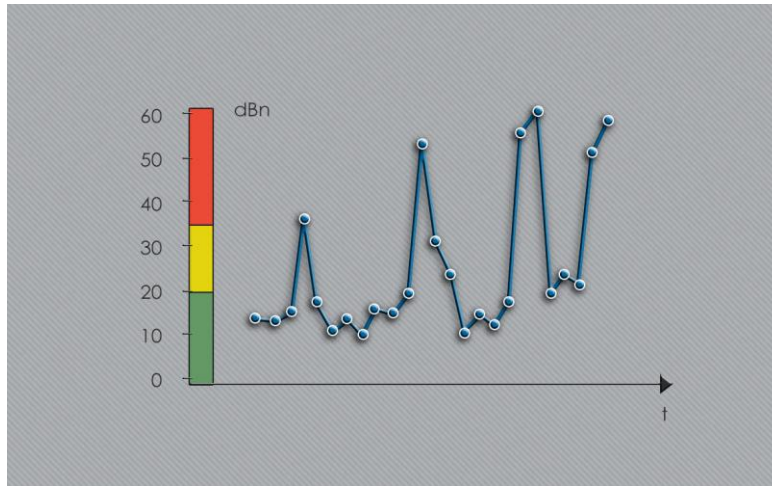

Figure 4-17. Inconsistent shock pulse values of damaged bearings.
i) Inconsistent shock pulse values of damaged bearings (Figure. 4-17).